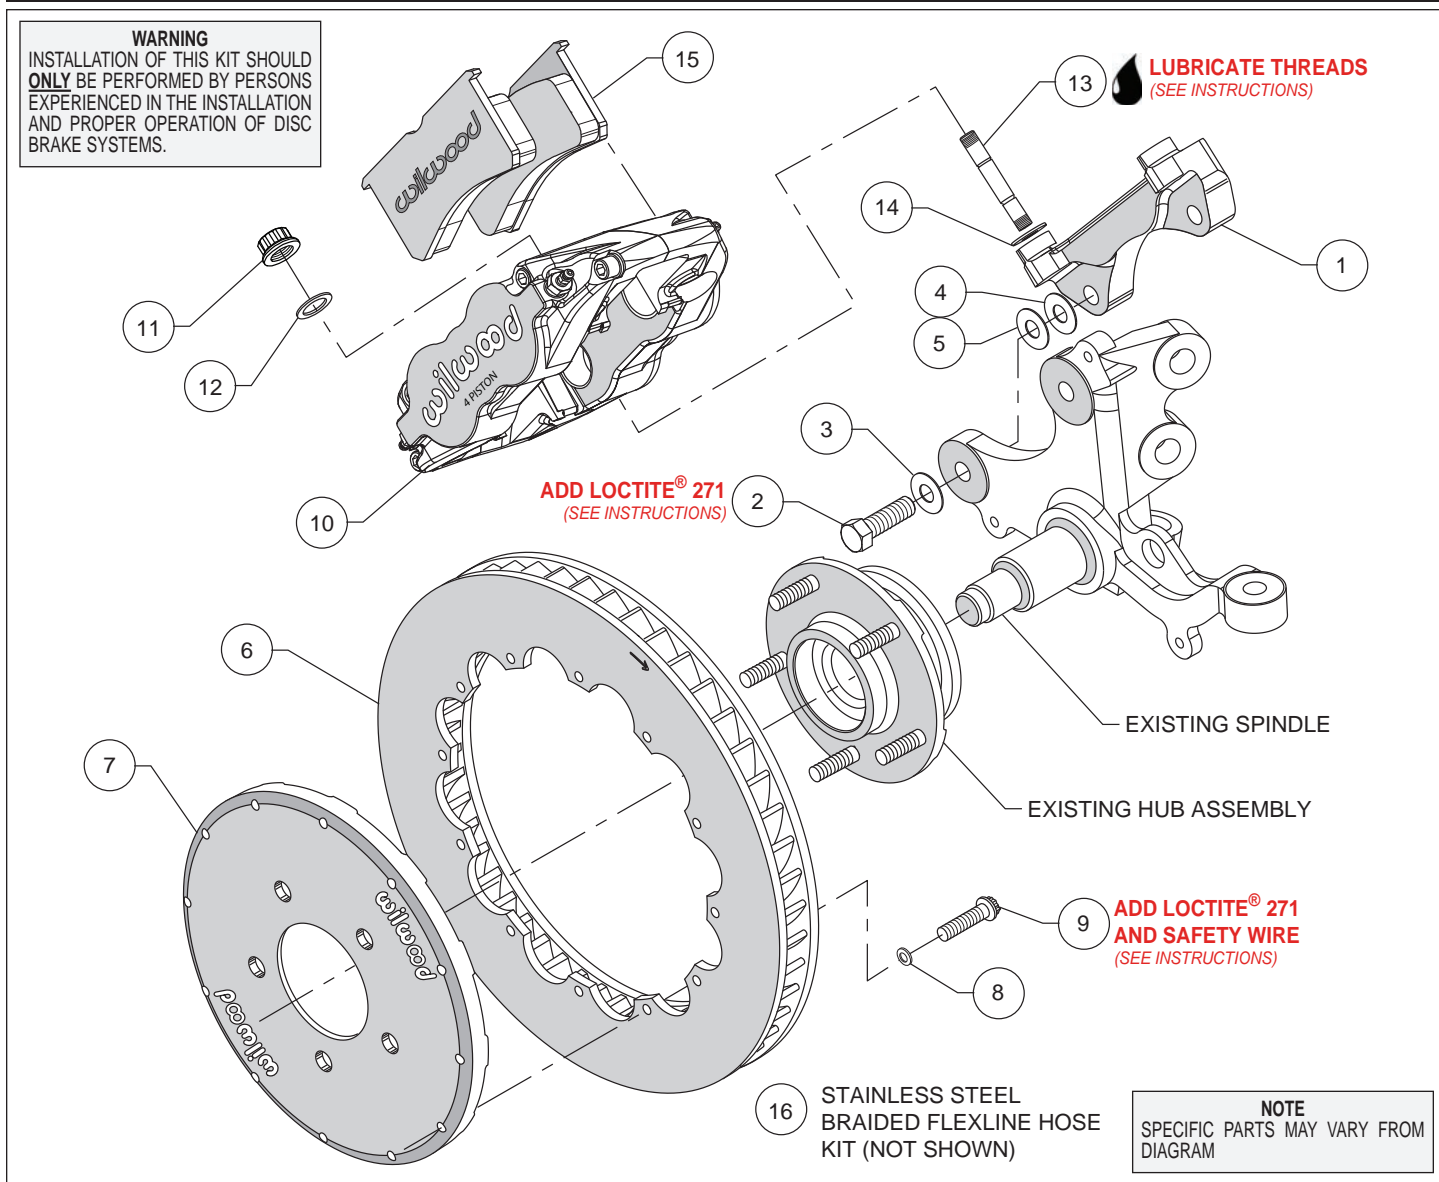
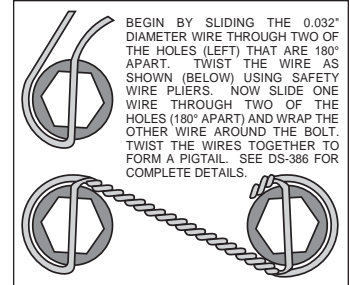

Figure 1. Typical Installation Configuration
Figure 3. Safety Wire Diagram
Assembly Instructions (numbers in parenthesis refer to the parts list and Figure 1 on the preceding page):
- The caliper mount bracket (1) should initially be installed with clean, dry threads on the mounting bolts. Orient the bracket as shown in Figure 1, and install using bolts (2) and washer (3). Initially place one .033 thick shim (4) on each bolt between the bracket and upright, Figure 1. Temporarily tighten the mounting bolts. Later, after the caliper alignment has been checked, the mount bolts will be secured using red *Loctite*® 271.
- Orient the rotor (6) and the hat (7) as shown in Figure 1 and Photo 1. Attach rotor to hat using bolts (9) and washers (8). Using an alternating sequence, apply red *Loctite*® 271 to the threads, and torque to 155 **in-lbs**. Safety wire the bolts using standard 0.032 inch diameter stainless steel safety wire as shown in Figure 3. Refer to Wilwood's data sheet DS-386 (available at www.wilwood.com/Pdf/DataSheets/ds386.pdf) for complete safety wire installation instructions.
- NOTE:** This kit contains distinct right and left hand calipers that must be mounted in a specific direction, as described below. Lubricate the caliper mounting studs (13) with lightweight oil. Initially place one .035" thick shim (14) on each stud as shown in Figure 1 and Photo 2. Mount the caliper (10) onto the bracket (1) using lock nuts (11) and washers (12), Figure 1. Ensure that the caliper is mounted so that the largest pistons are at the rotor exit end of the caliper, in relation to the direction of rotor rotation. Temporarily tighten the lock nuts and view the rotor through the top opening of the caliper. The rotor should be centered in the caliper, Photo 3. If not, adjust by adding or subtracting shims (4 and/or 5) between the bracket and the upright. Always use the same amount of shims on each of the two mounting bolts. Once the caliper alignment is correct, remove the bracket mounting bolts one at a time, apply red *Loctite*® 271 to the threads, and torque to 60 ft-lbs.